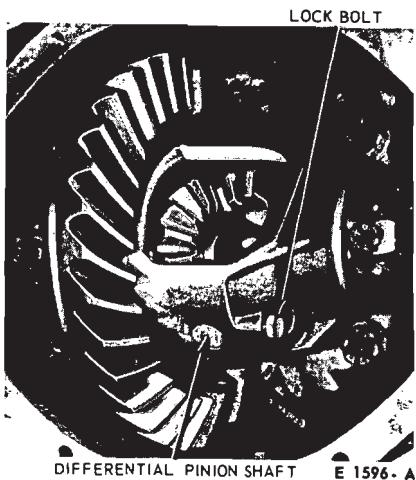

FIG. 3—Differential Pinion Shaft and Lock Bolt
7. Working through the differential case opening, remove the pinion shaft lock bolt and the pinion shaft (Fig. 3).
10. Remove the pinion shaft lock bolt and pinion shaft (Fig. 3), differential pinion gears and thrust washers.